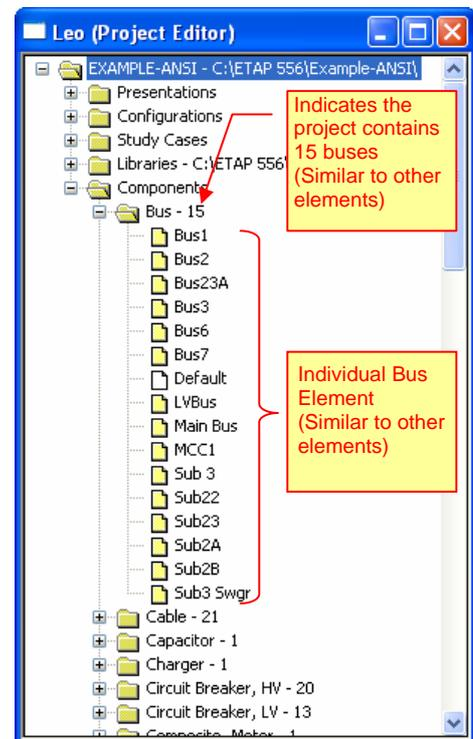

Fig. 1
- (a) **Know the statistics of the elements** you have in your project. For example, how many buses or motors you already have in your system (See Fig. 1)